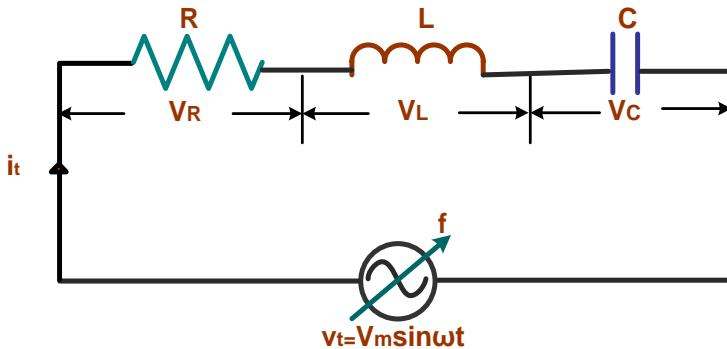

Figure 2.38 Circuit Diagram of Series Resonance RLC Circuit
- Such a circuit shown in the Fig. 2.38 is connected to an A.C. source of constant supply voltage  $V$  but having variable frequency.